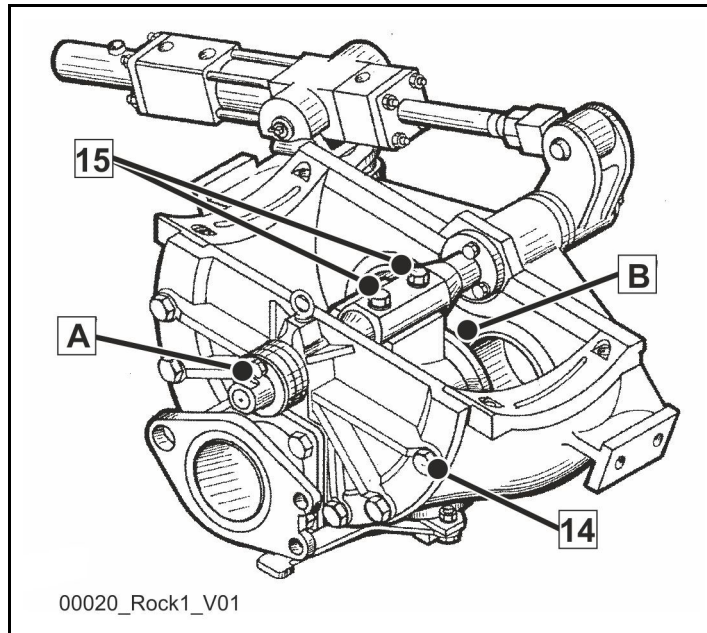

Fig. 330 Example
Regularly make sure that the cover screws (14) and clamping screws on the swivel head (15) are tight, in accordance with the maintenance schedule (**Fig. 330**).
Caption (Fig. 330)
The cutting ring and wearing insert on the housing lining are worn unevenly due to external influences (e.g. varying types of concrete) and different stresses in sub-areas (area "B", (Fig. 330)).